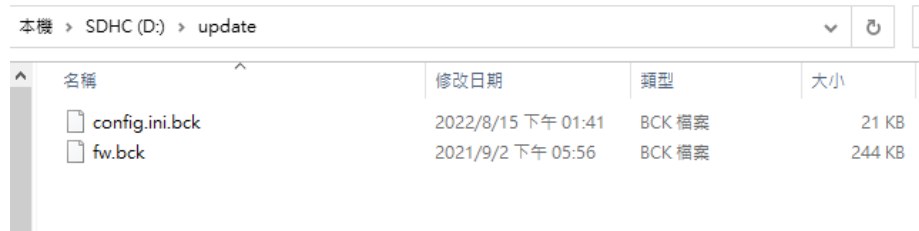

Figure 11.1.5
16. When updating, the firmware and configuration files in the device will be backed up into SD card with the extension **.bck**, as shown in Figure 11.1.5.